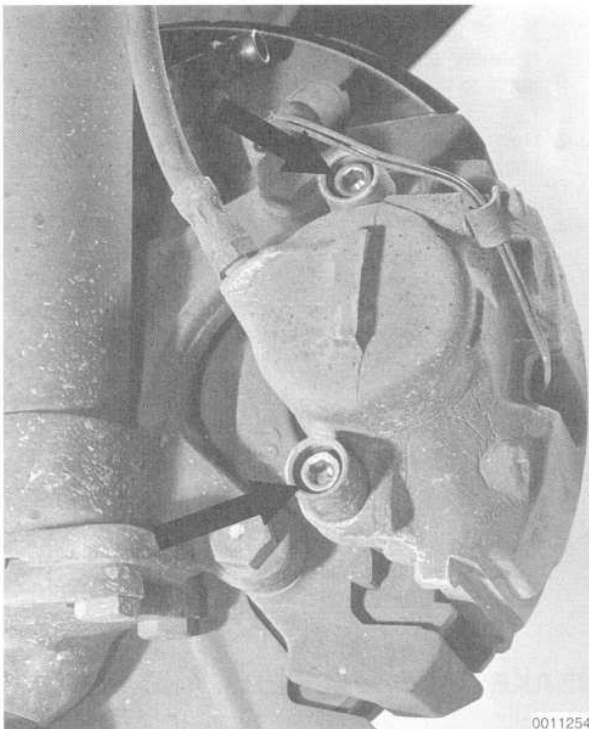

Fig. 2. Brake caliper guide bolts (arrows).
2. Remove the plastic caps from the guide bolt covers and then remove the guide bolts. See Fig. 2.